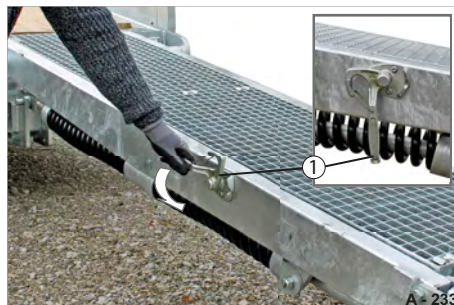

Fig. 97 Turning the rotary lever latch
- ▶ Turn the rotary lever latch (Fig. 97/1) downwards into the vertical position.